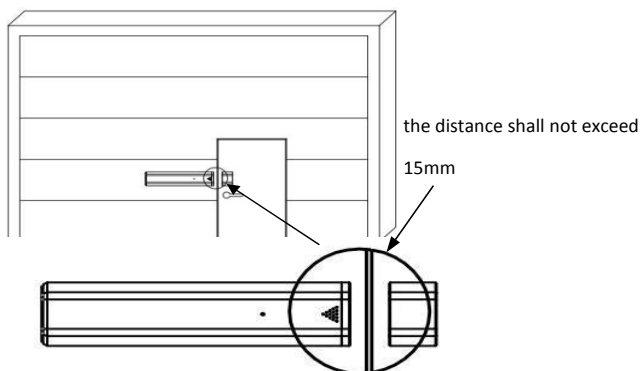

Fig.1
- The installation distance between Rcontact TF Part 1 and Rcontact TF Part 2 is the best within 15 mm. (Fig.1)